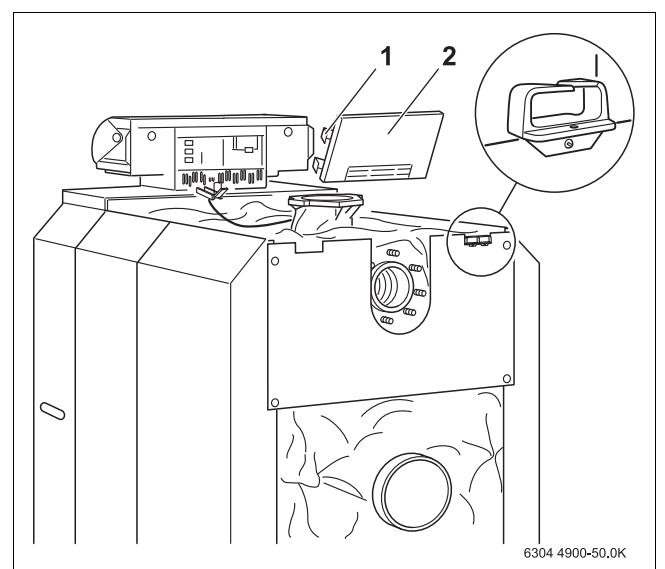

Fig 54 Fitting the rear panel section
- Screw cable duct (see detailed view → Fig. 54) on the left and right of the boiler rear panel.